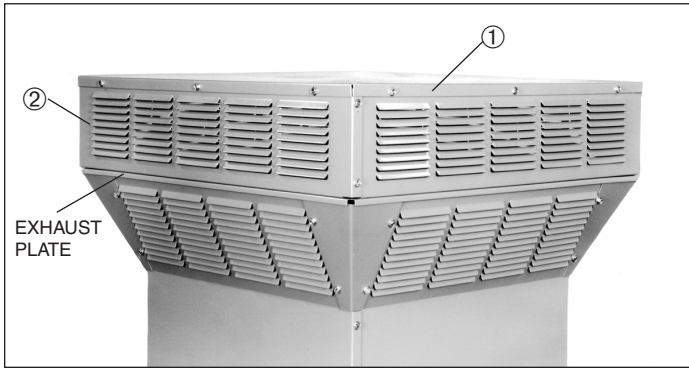

Figure 2.2
4. Remove the top ① and sides ② from the exhaust plate of the standard vent cap.
7. Mount the restrictor plate mounting angle with two #10 x 1/2" sheet metal screws to the secondary restrictor (See Figure 2.2).